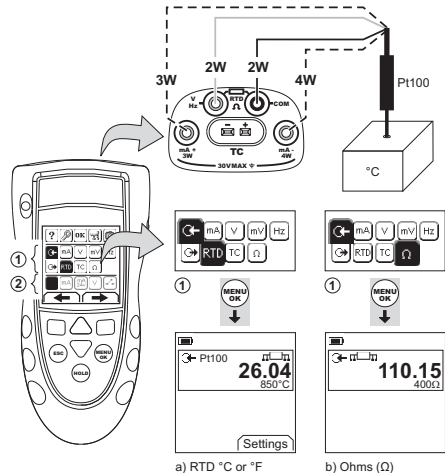
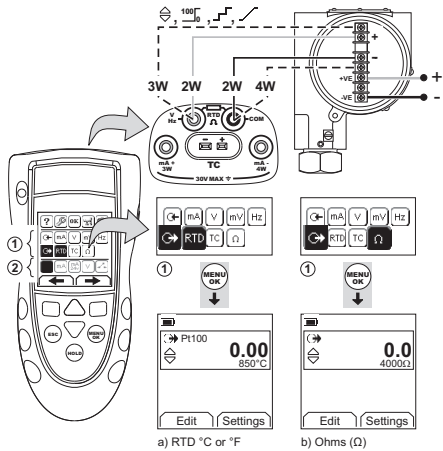

Figure 7: Example Configuration - To Measure the Temperature or Resistance
Figure 8: Example Configuration - To Simulate the Temperature or Resistance
- 1. Connect the instrument (Figure 7 & Figure 8) and, if necessary, adjust the Set Up (Table 1).